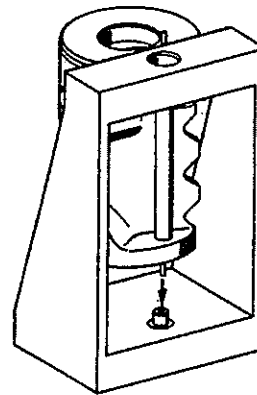

Fig.26
6.1 Versions with caulked valve insert (109) - steering limiter valve
Introduce valve insert (109) as far as possible in piston (100). Mount piston in tool [6] with the caulked area pointing upwards (*Fig.26*).